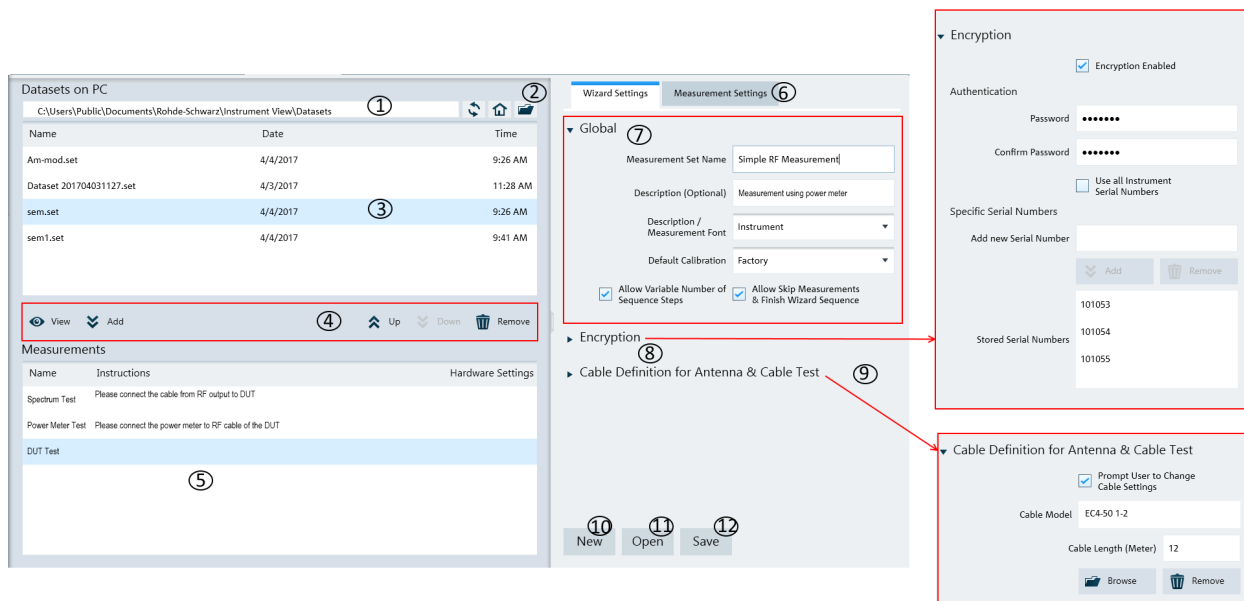

Figure 5-34: Wizard editor
The measurement table list forms the measurement sequence in the wizard set. See item 5 in Figure 5-34
The "Wizard " editor allows you to open, edit and save the measurement wizard set. See Figure 5-34.
To arrange the measurement sequence in the wizard set, double clicked or "Add" the desired dataset from the PC folder directory to the measurement table list. See index 4 and 5 of Figure 5-34.
Navigates from the list of datasets in the measurement table list (see index 5 of Figure 5-34) and select the desired dataset for configuration.